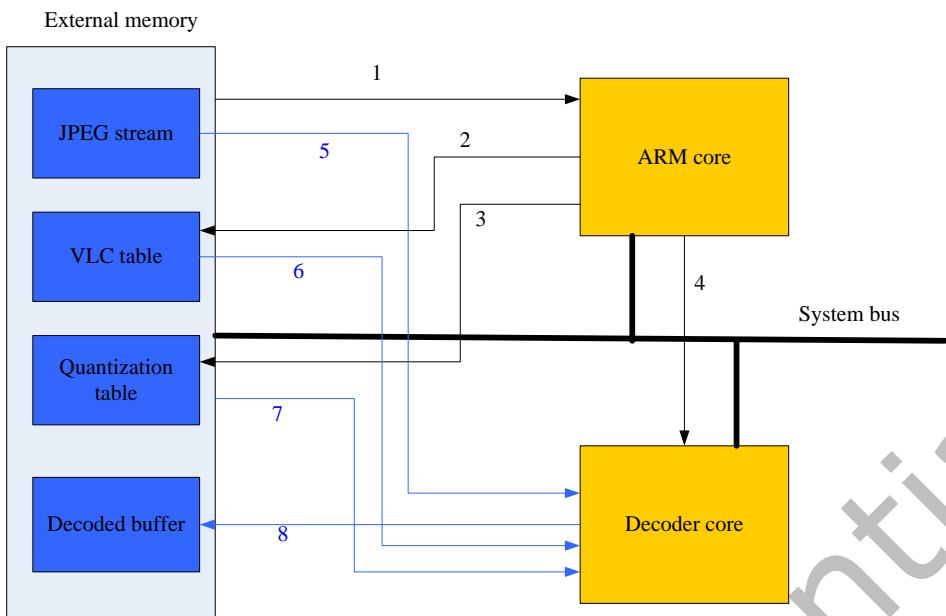

Fig. 4-10 The dataflow of JPEG decoder
The data flow of jpeg decoder is as Fig. 4-10 shown. The decoder software starts decoding the picture by parsing the stream headers (1) and then writes the following items to external memory: